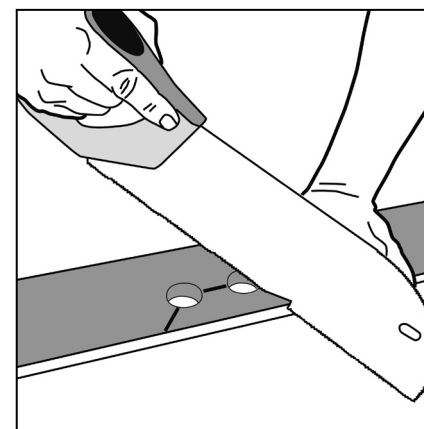

Figure 55 Radiator pipes
- > Further drill the hole with a spade bit wide enough to accommodate both the diameter of the pipe and the required expansion gap. Cut around as shown with a saw or sharp utility knife; (Fig 55).